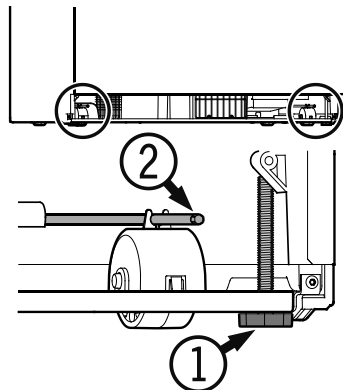

Figure 18
Leveling the Appliance - Figure 18
To prevent the appliance from tipping forward the leveling feet (1) (Figure 18) must have contact with the floor.